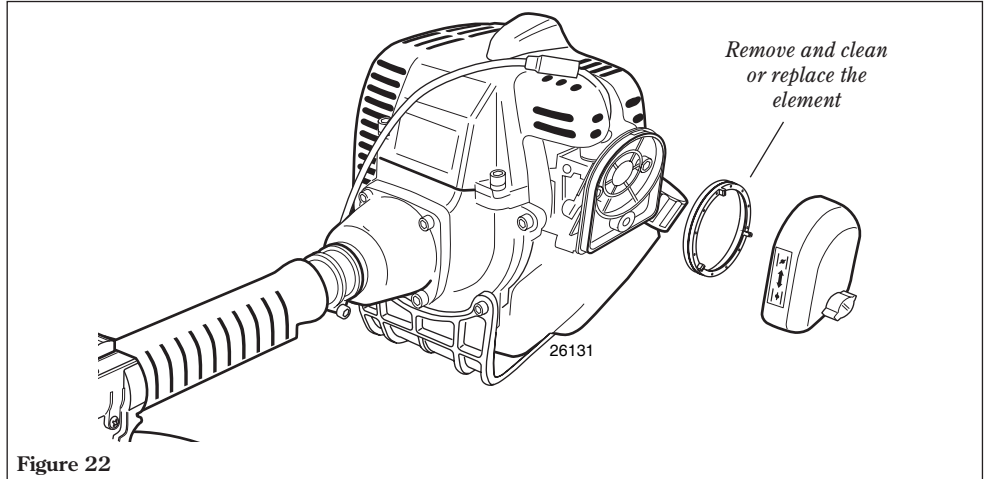

Figure 22
- Remove the air cleaner element. See Figure 22. Clean or replace as necessary. To clean element: Wash it thoroughly in soap and water. Let dry before reinstalling the element.